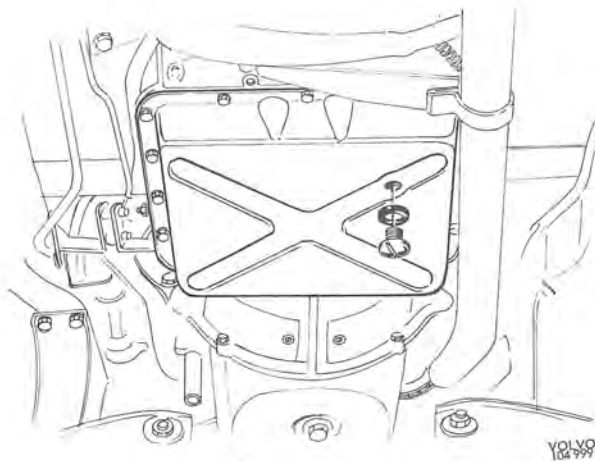

Fig. 4-78. Oil drain plug
1. Jack up and place props under the vehicle. Drain off the oil into a vessel which is absolutely clean. See Fig. 4-78.
2. Drain the oil into a clean container, see Fig. 4-78.